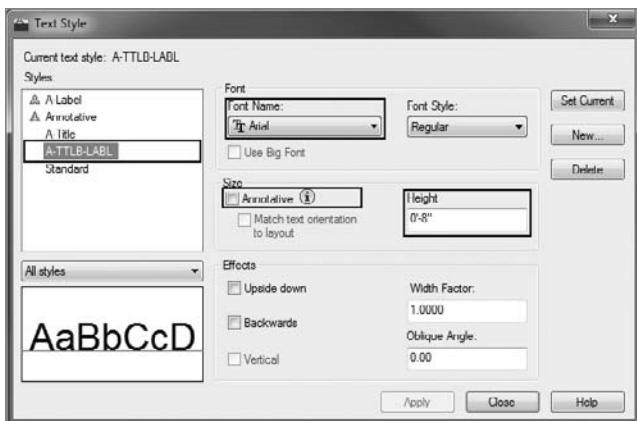

FIGURE 8.46 Using the A-Label text style as a template for the A-TTLB-LABL text style
2. The A-Label text style should still be current. If not, then select it. Click New, enter A-TTLB-LABL, and then click OK. Leave the font set to Arial, but deselect the Annotative check box, and change the height to 8" (204). Assuming the Text Style dialog box looks like Figure 8.46, click Apply and then Close. A-TTLB-LABL is the current text style.